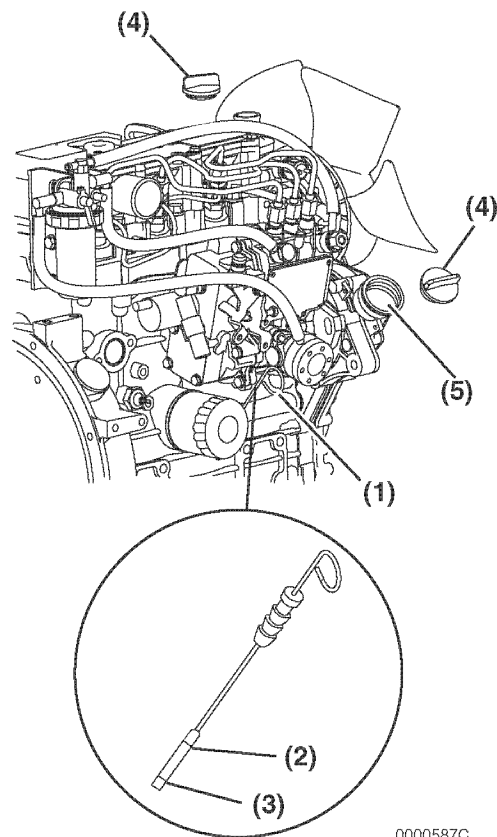

Figure 4-6
2. Remove dipstick (Figure 4-6, (1)) and wipe with clean cloth.
4. Remove dipstick. The oil level should be between upper (Figure 4-6, (2)) and lower (Figure 4-6, (3)) lines on the dipstick.
2. Remove oil cap (Figure 4-6, (4)).
3. Add indicated amount of engine oil at the top or side engine oil filler port (Figure 4-6, (5)).
6. Replace oil cap (Figure 4-6, (4)) and hand-tighten. Over-tightening may damage the cap.